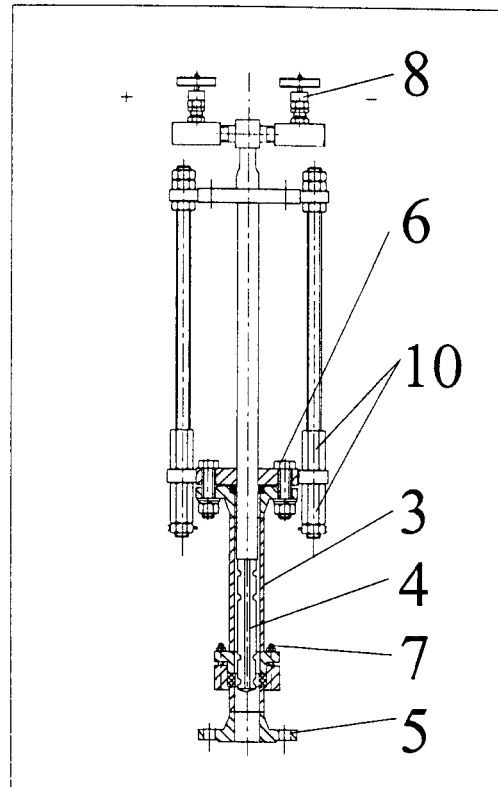

Fig. 17
11. Inspect Flo-Tap assembly to insure that the insert-retract mechanism is fully retracted as shown in Figure 17.